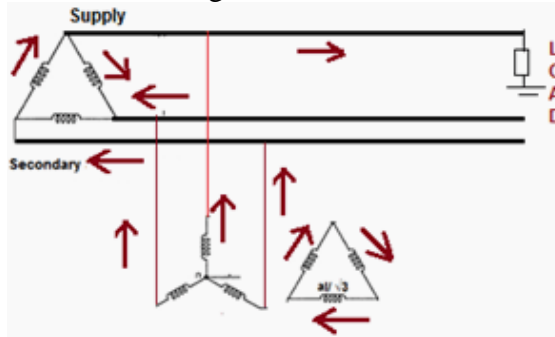

Figure 3 – Y-D Grounding transformer
7. **As Grounding Transformer:** In Power System Mostly grounded Y- $\Delta$  transformer is used for no other purpose than to provide a good ground source in ungrounded Delta system. Take, for example, a distribution system supplied by  $\Delta$  connected (i.e., ungrounded) power source. If it is required to connect phase-to-ground loads to this system a grounding bank is connected to the system, as shown in Figure 3 below:
8. This system a grounding bank is connected to the system, as shown in Figure 3. Note that the connected winding is not connected to any external circuit in Figure 3.